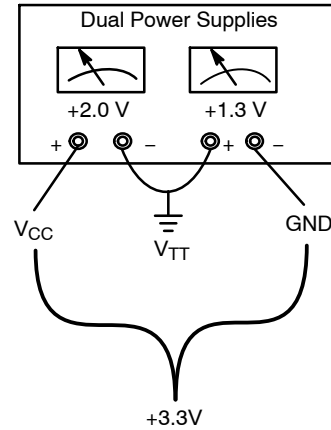

Figure 3. “Split” or Dual Power Supply Connections
1. Connect a “split” power supply to the evaluation board. (see Figures 3 and 4)